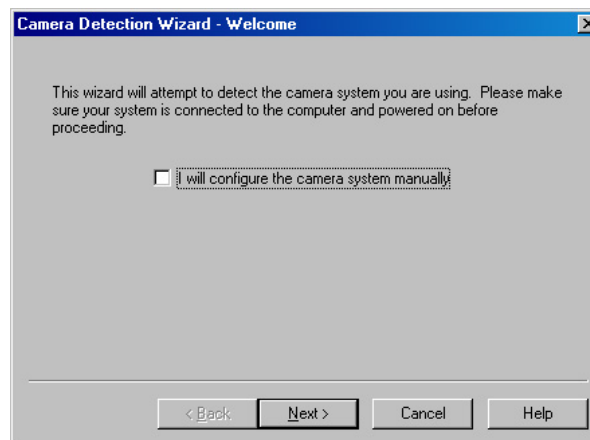

Figure 11. Camera Detection Wizard - Welcome dialog box
3. On the **Welcome** dialog (Figure 11), leave the checkbox unselected and click on **Next**.